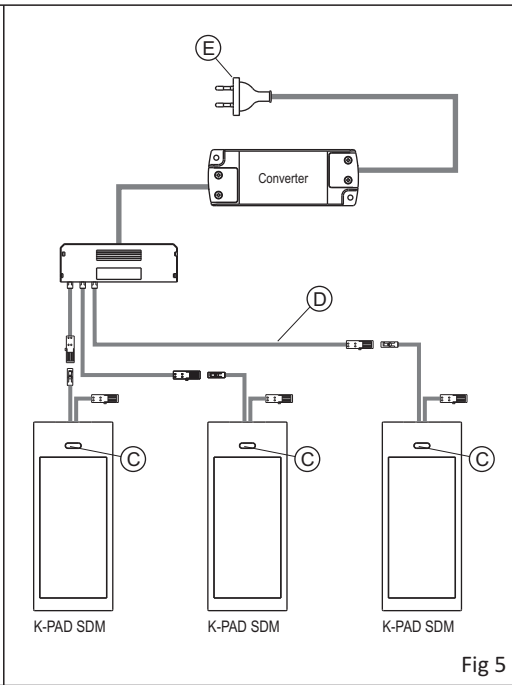

Fig 5
- **SDM: (fig.5)** (IR SENSOR)
- **SDM (fig.5)** (IR SENSOR)
- **SDM** (Abb.5) (IR SENSOR)
- **TLD (fig.5)** (touch-led dimmer)